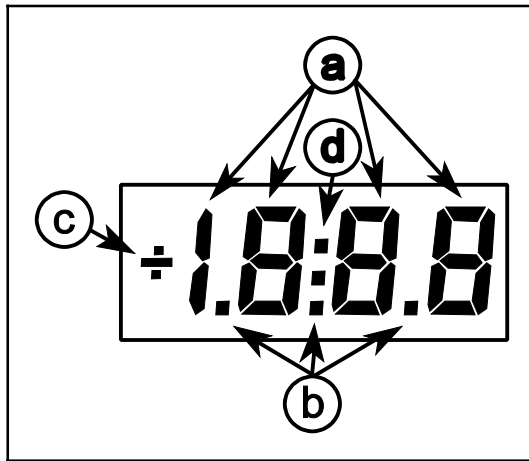

Fig. 7-2
**Explanation of fig. 7-2**
The digital display (fig. 7-2) has the following functions: